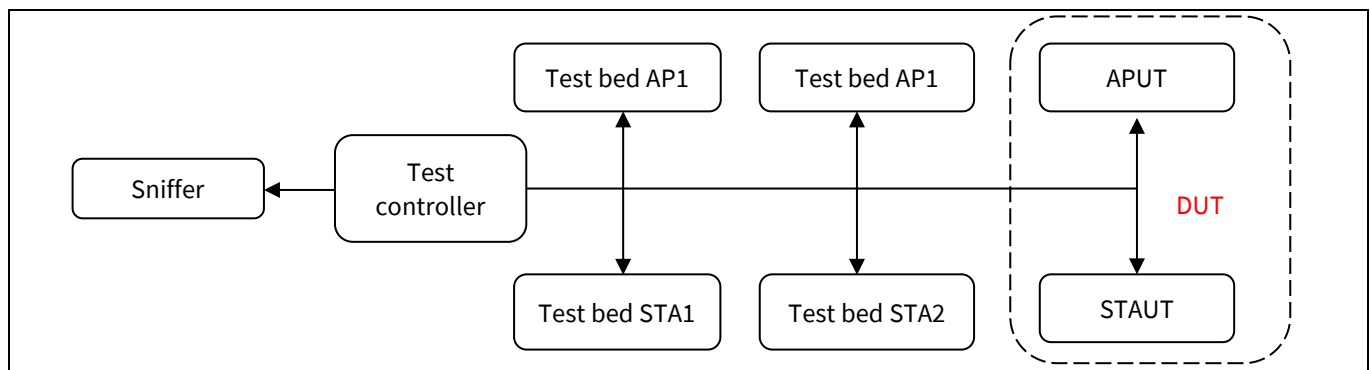

Figure 1 Typical WFA certification setup
Wi-Fi Alliance (WFA) has various certification programs such as 11ac, 11n, WPS, and Wi-Fi Direct. It has station (STA) and access point (AP) modes. As shown in Figure 1, major components of the test setup are the test controller, testbed APs, testbed STAs, sniffer, and device under test (DUT).